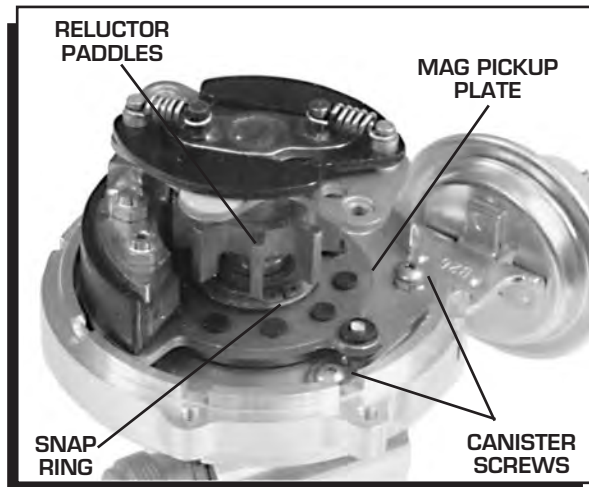

Figure 10 Removing the Vacuum Canister.
1. Remove the cap, rotor and aluminum spacer. Remove the two Allen head screws that hold the advance canister (Figure 10).